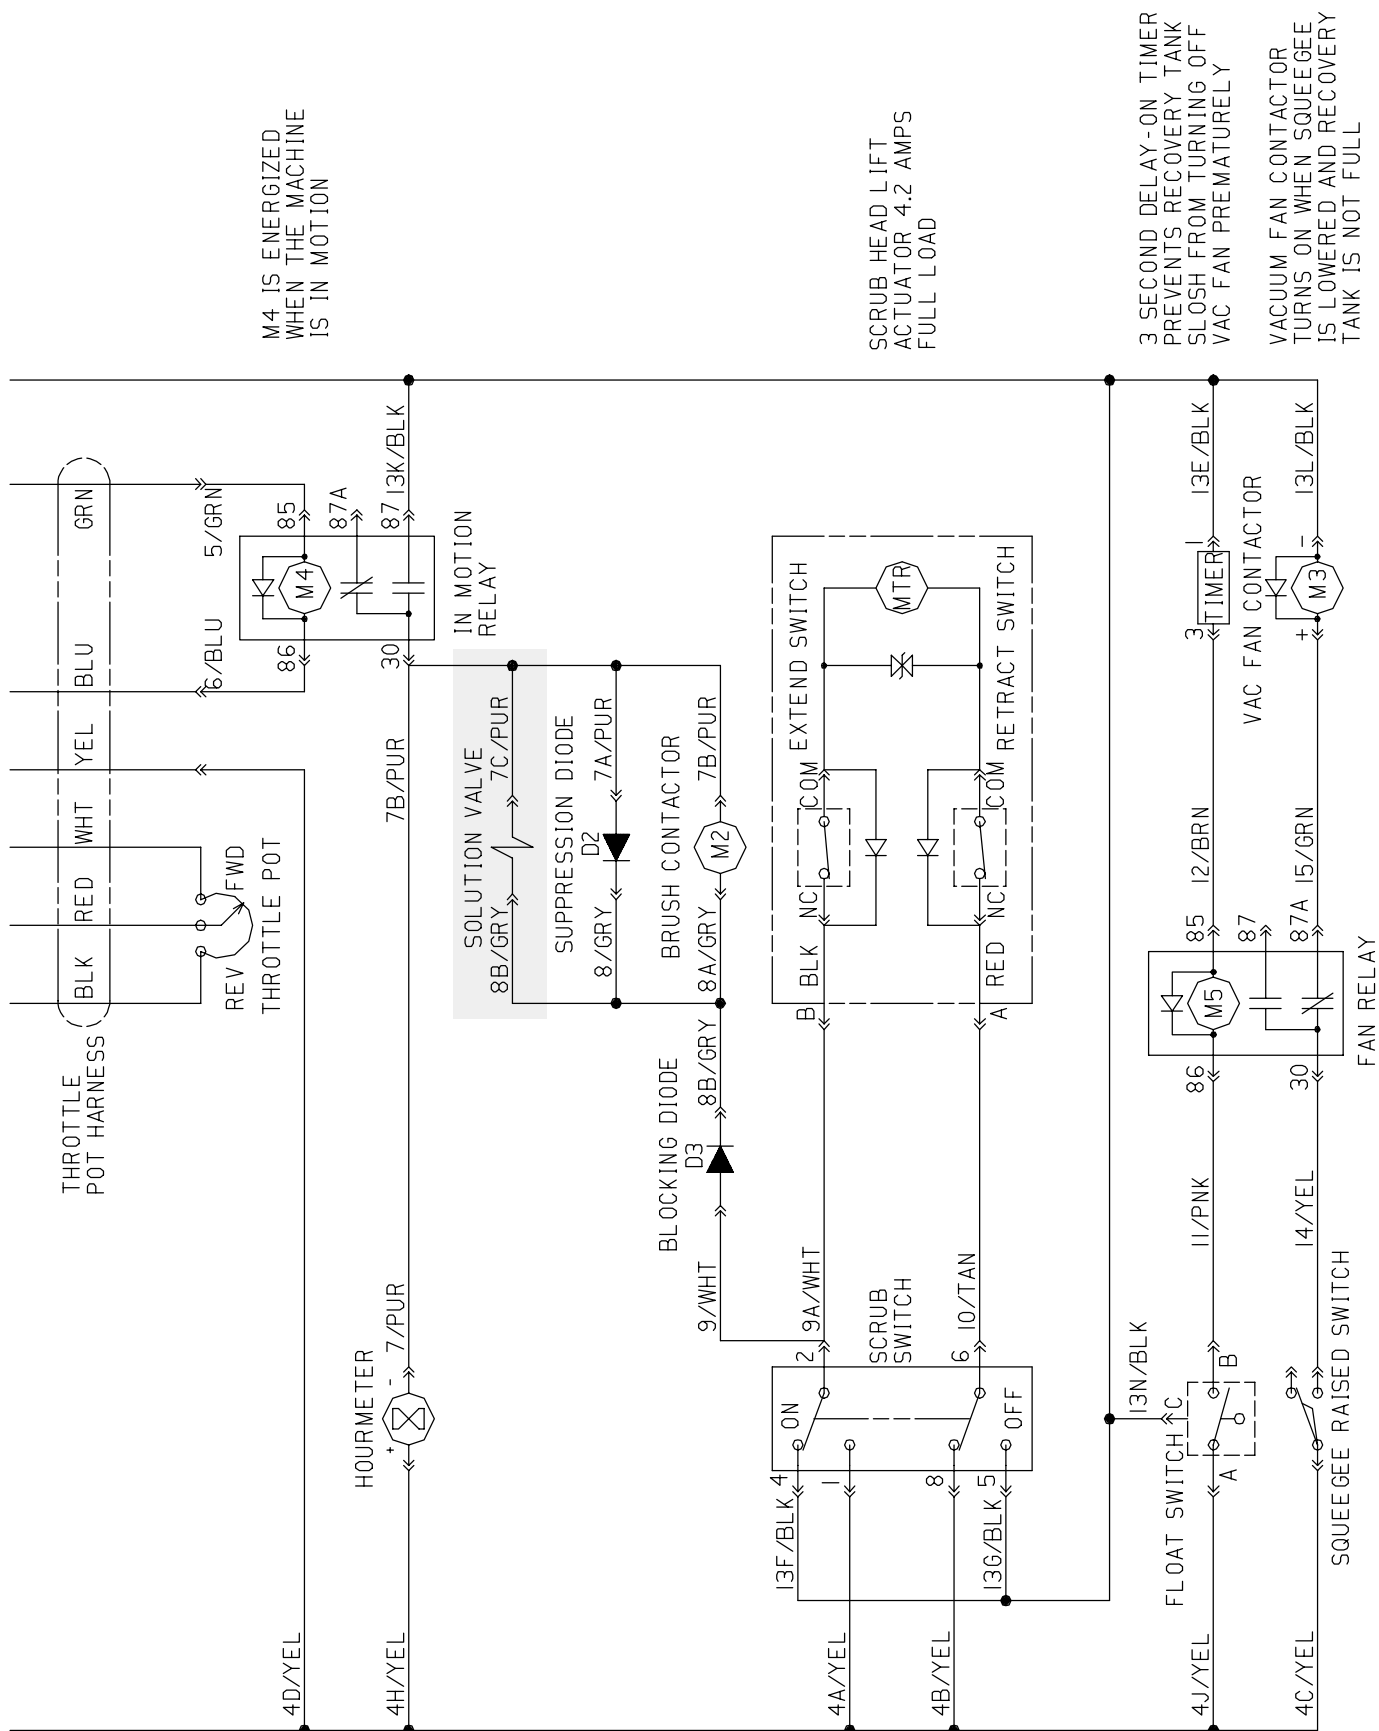

FIG. 3-Electrical Schematic, 5680
15. Connect the machine harness 8B/GRY and 7B/PUR to the new solenoid valve (2). Secure the wire harness to the solenoid valve (2) with a plastic wire tie. (Refer to FIG. 3)